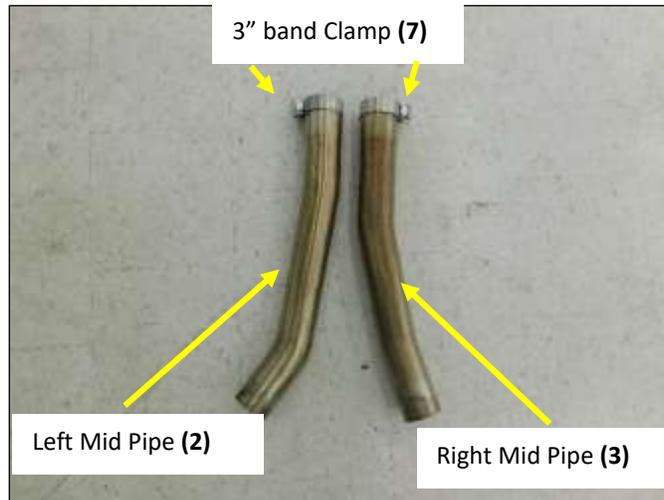

Figure 9
8. Install a 3" band clamp (7) on to the expanded inlet end of the Left Mid Pipe (2) and the Right Mid Pipe (3) with the bolt to the outside and the nut facing down (Fig. 9).